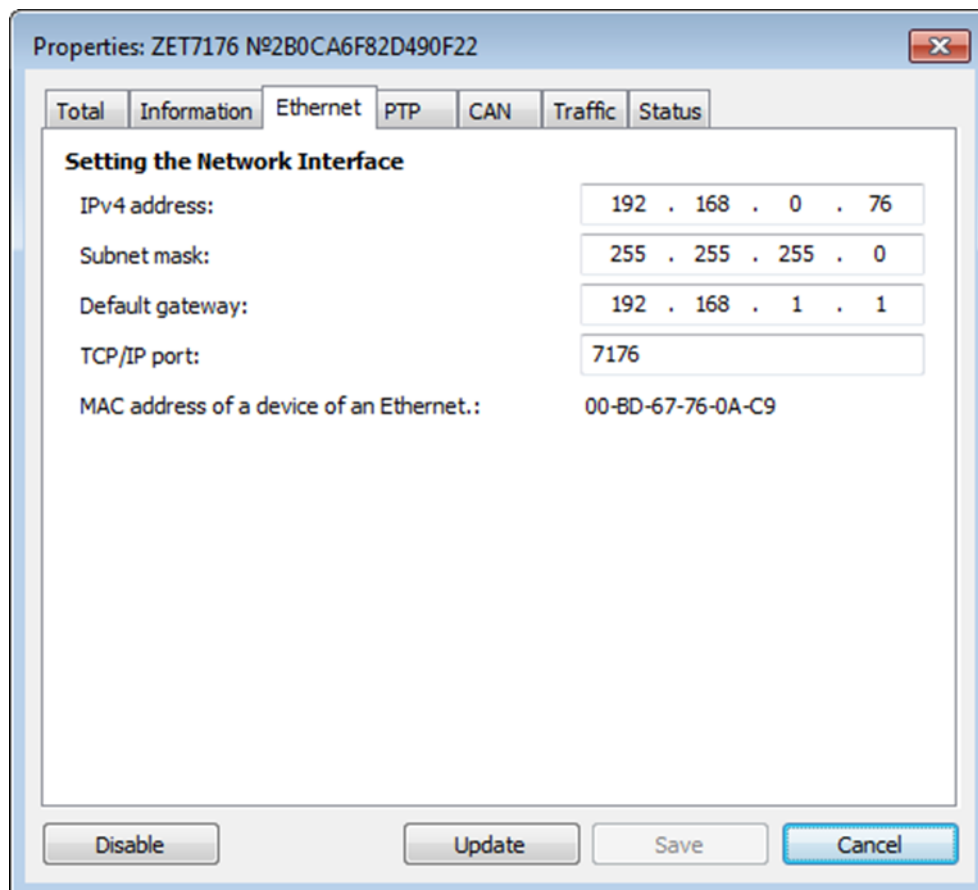

Figure 0.9 «Ethernet» tab
- Set the network address in accordance with applicable requirements in the fields “Ipv4 address”, “Subnet mask”, “Default gateway” of “Ethernet” tab (Figure 0.9).